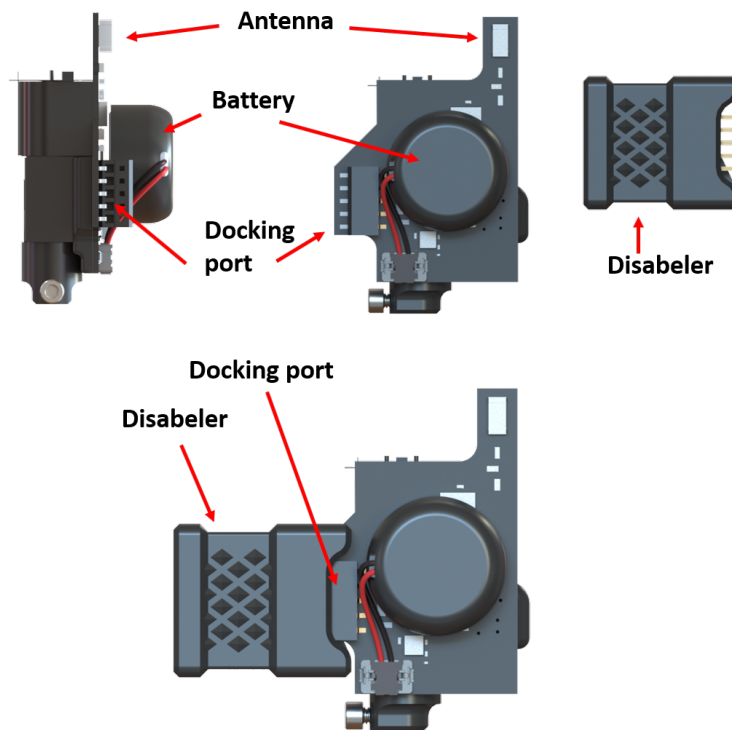

Figure 1.3: Headstage and disabler
The *Wireless Headstage* (Fig. 1.3) is an optic-electronic device that creates the link between the fiber optic cannula and the base-station. It contains LED drivers, two LEDs of choice (isosbestic + biosensor excitation), and a detector to both send light pulses for illuminating the fluorophores and collect the emission wavelengths. The headstage also uses a battery to power the LEDs.
- The **Antenna** (Fig. 1.3) is a small ridge on the side of the headstage used to transmit wireless photometry signal.
- The **Battery** serves as the power source for the headstage operation. Two battery options are available: Type A and Type B, each offering different charge durations and weights. For details, refer to the specification tables below (Tables 2.1, and 2.3). Once the battery is assembled to the headstage, it is ideal to not disconnect it in order to increase the longevity of the device. Indeed, more than 20 disconnect-reconnect cycles can significantly loosen the connector on the headstage. Once the experiment is finished, to save the remaining power of the battery, the headstage should be connected to the battery charger base or the disabler (Fig. 1.3). Otherwise, the headstage will continue to search for wireless connections and deplete the battery.
- The **Headstage connector** (Fig. 1.3), found on the underside of the headstage, links it to the 2.5 mm ferrule cannula via a small screw.
- The **Docking Port** (Fig. 1.3) is used by the *Headstage Charger* to recharge the headstage battery, as well as reprogramming it if necessary.
- The **Disabler** (Fig. 1.3) is used to disable the wireless connection to reduce battery degradation when the headstage is not used.